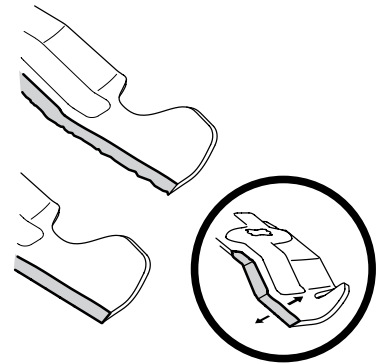

Figure 4-15
4. To properly sharpen the cutting blades, remove equal amounts of metal from both ends of the blades along the cutting edges, parallel to the trailing edge, at a 25°- to 30° angle. Always grind each cutting blade edge equally to maintain proper blade balance. See Figure 4-15.